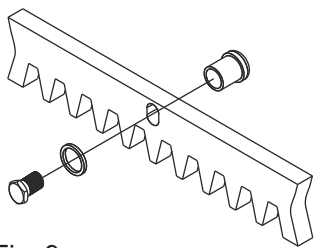

Fig. 9
- 5.2. Fix on each gear rack element the support pawls with the appropriate lock screws, making sure to put them in the upper part of the hole - Fig. 9;